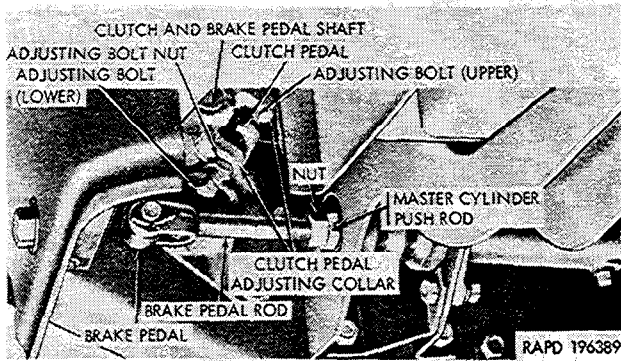

Figure 2-152. Clutch and brake pedals installed.
b. Adjust Pedal Rod (Fig. 2-152). Loosen the locknut on the pedal rod, detach the pedal rod from the brake pedal by removing the cotter pin and clevis pin. Turn the pedal rod in or out of the push rod as required to establish correct pedal travel (*a* above). Turning the pedal rod in increases pedal travel, and turning it out decreases the pedal travel. Turn the locknut up tight against the push rod after completing the adjustment. Aline the pedal rod with the brake pedal and install the clevis pin and cotter pin.
(2) Unscrew the vent fitting nut from the elbow in the shutoff cock.
(3) Unscrew the brake line fitting nuts from the connector in the master cylinder and frame. Detach the brake line.
(4) Remove the cotter pin and clevis pin that attach the pedal rod to the brake pedal (fig. 2-152).
(5) Remove the three nuts, lockwashers, and bolts securing the master cylinder to the left running board hanger and pull the master cylinder out through the hanger.
(6) Remove the stop light switch, the vent line shutoff cock and attached elbow, and the brake line